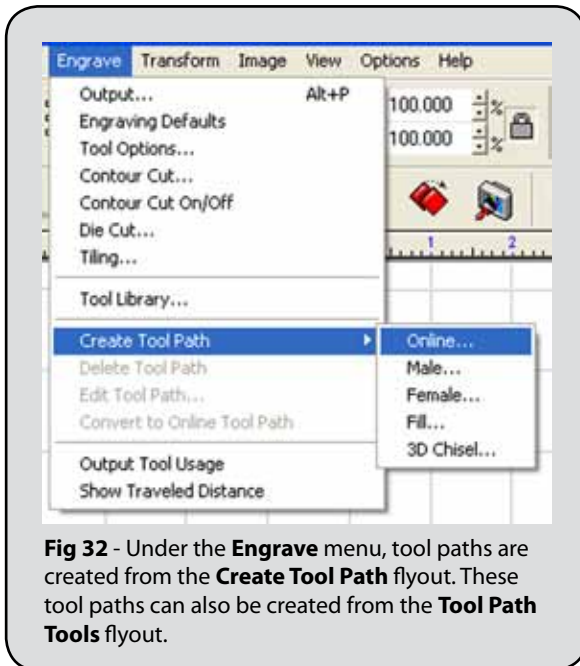

Fig 32 - Under the **Engrave** menu, tool paths are created from the **Create Tool Path** flyout. These tool paths can also be created from the **Tool Path Tools** flyout.
3. Select the text shape, and then create an **Online** tool path from the **Engrave** menu. (Fig 32)